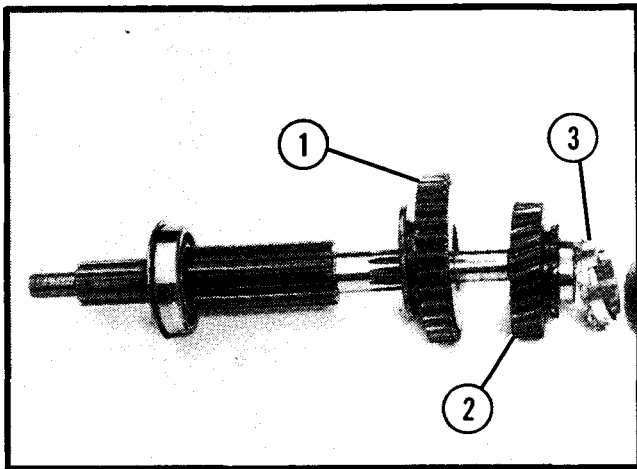

Figure 11.
1. Assemble the low and reverse gear, second gear, and synchronizer ring onto the main shaft. See Figure 11.